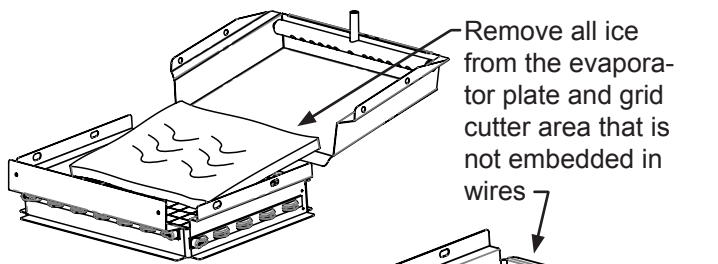

Figure 20
**Do not try to remove ice that is embedded in the grid cutter wires as that may break the wires.** (See Figures 20 and 21).